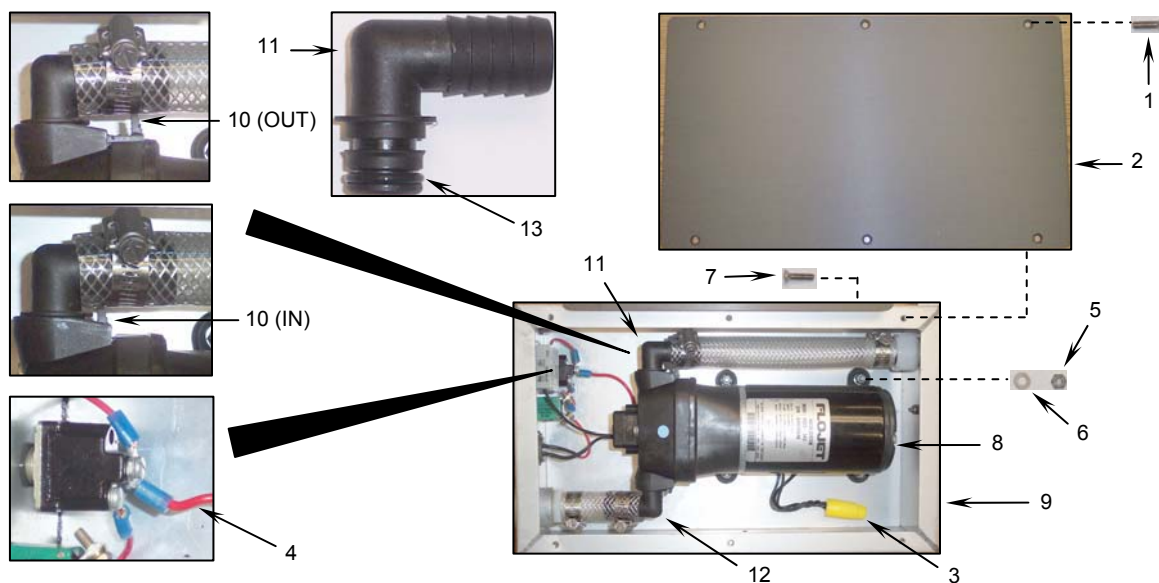

Figure 3. Removing the Sink Fill Pump Assembly Water Pump.
- a. Remove the six flat head machine screws (**Figure 3, Item 1**) from the fill pump cover (**Figure 3, Item 2**).
- b. Remove the cover (**Figure 3, Item 2**).
- a. Remove the wire nut (**Figure 3, Item 3**) from the black wires. Discard the wire nut.
- c. Tag and disconnect the red pump wire (**Figure 3, Item 4**) from the POWER ON/OFF switch.
- d. Remove the four self-locking nuts (**Figure 3, Item 5**), four flat washers (**Figure 3, Item 6**), and four flat head machine screws (**Figure 3, Item 7**) that secure the pump (**Figure 3, Item 8**) to the sink fill pump assembly enclosure (**Figure 3, Item 9**).
- a. Slide out the pump suction elbow retaining tab (**Figure 3, Item 10**) and pull the suction elbow (**Figure 3, Item 11**) out of the pump.
- b. Remove the pump discharge elbow (**Figure 3, Item 12**) the same way.
- c. Inspect the O-ring (**Figure 3, Item 13**) on both elbows.